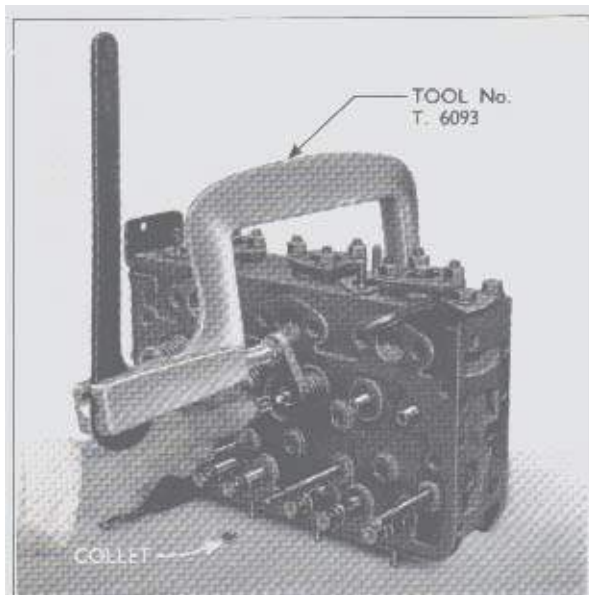
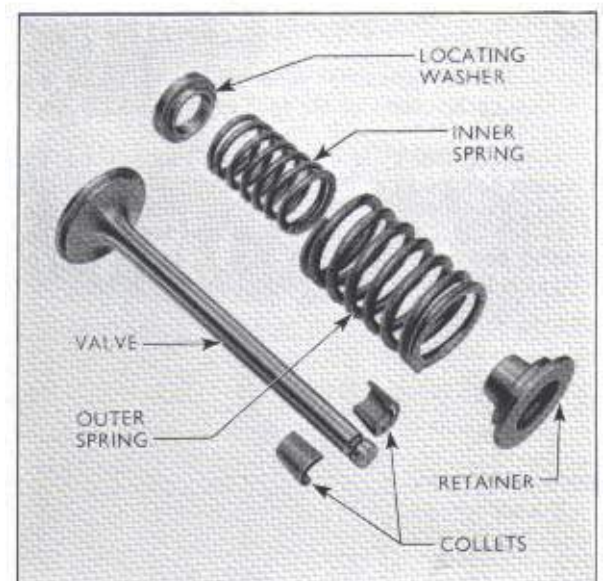

Fig. 4
Fig. 5
2. Lay the cylinder head on its side on a flat surface, and using the spring compressor Tool No. T.6093 (see Fig. 4), compress the springs in turn, extract the collets and remove the spring retainer, inner and outer springs and the spring locating washer (see Fig. 5).